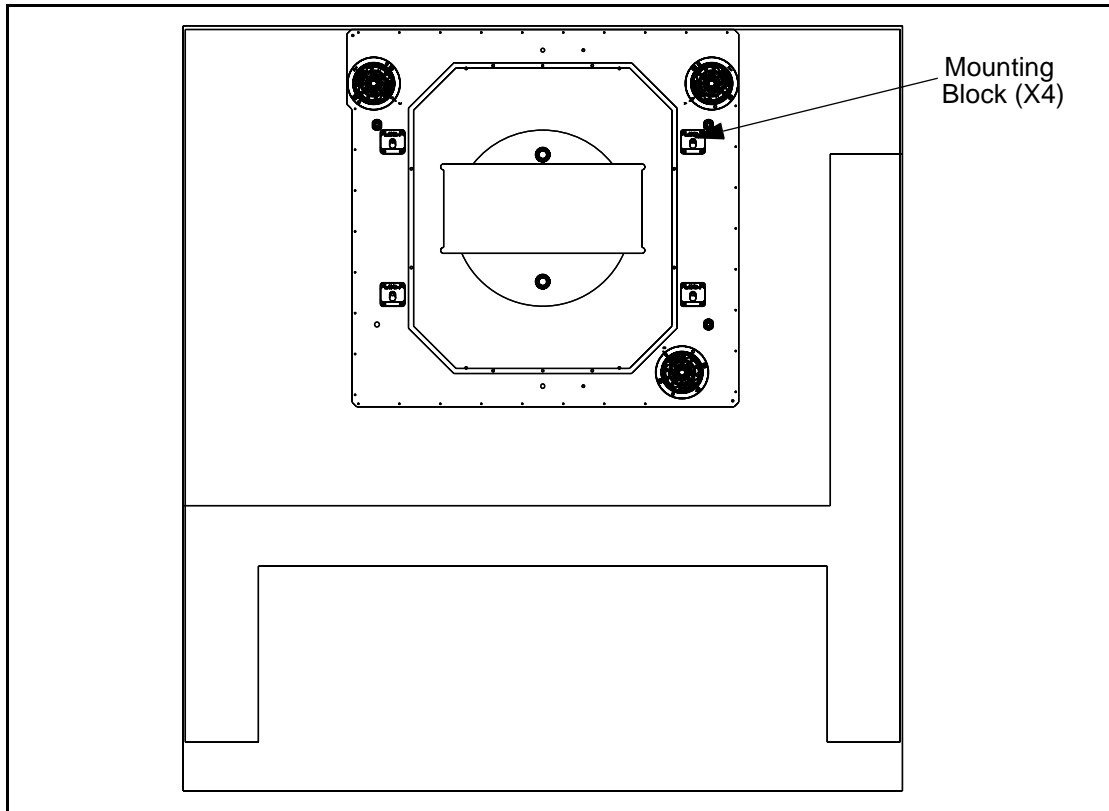

Figure 8 Mounting Block Site Setup Selection
- 4) Position the interface assembly plate under the handler, placing the screw heads through the mounting block keyholes (see Figure 8).